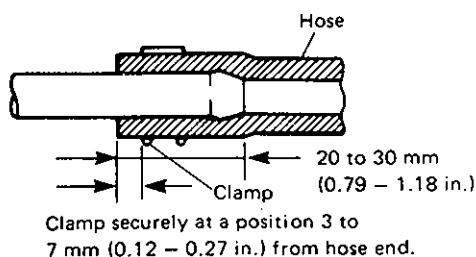

Fig. 6-3 Hose Connection
- Fuel or fuel vapor hose connection varies with each type of pipe. When reconnecting fuel or fuel vapor hose, be sure to connect and clamp each hose correctly referring to Fig. 6-3 Hose Connection.